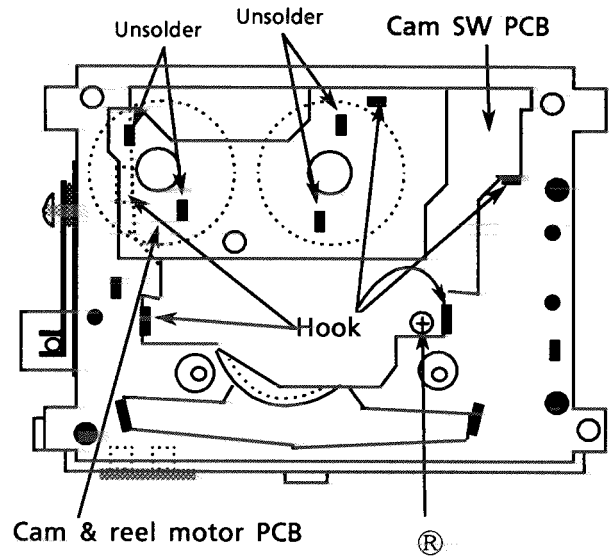

Fig 18 Cassette mecha. bottom view
5. Unsolder the reel and cam motor PCB. (Fig.18)
1. Remove the (17).
2. Remove the screw ③. (Fig.18)